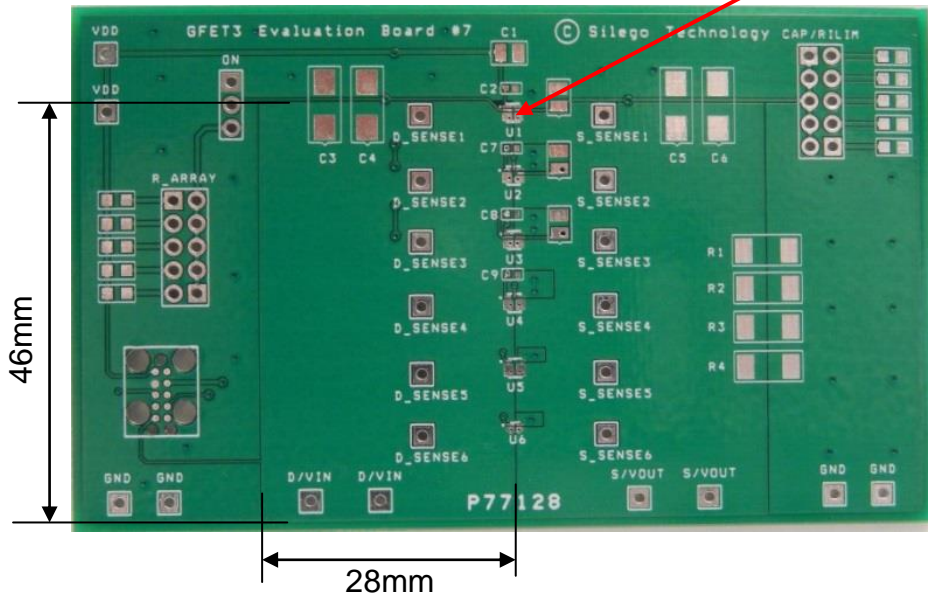

Figure 3. SLG59M309V Evaluation Test Board
2.3. The D/VIN and S/VOUT pins carry significant current. Please note how the D/VIN and S/VOUT pads are placed directly on the power planes in Figure 3, which minimizes the $R_{ds(ON)}$ associated with long, narrow traces. The D/VIN, S/VOUT and GND pins dissipate most of the heat generated during high-load current condition. The layout shown in Figure 3 is illustrating a proper solution for heat to transfer as efficiently as possible out of the device.